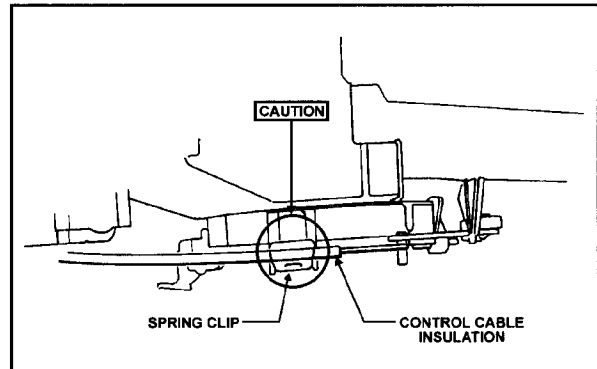

Figure 73: Spring Clip Connection of Cable
- 6) While holding the cam lever in the maximum cool position, snap the control cable insulation into the spring clip by pushing upward. (Fig. 73)